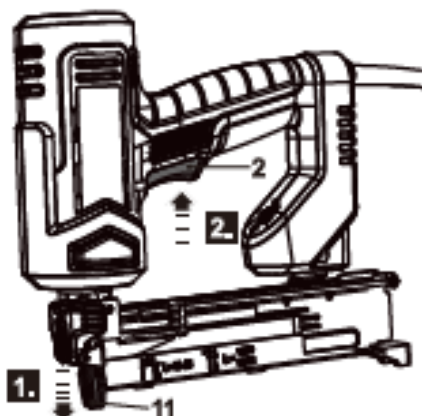

Fig. 6
1. Press the safety yoke (11) onto the material/workpiece that you want to nail/staple (Fig. 6, step 1).
2. Maintain the contact pressure and briefly press the trigger (2) (Fig. 6, step 2). The firing will be performed.